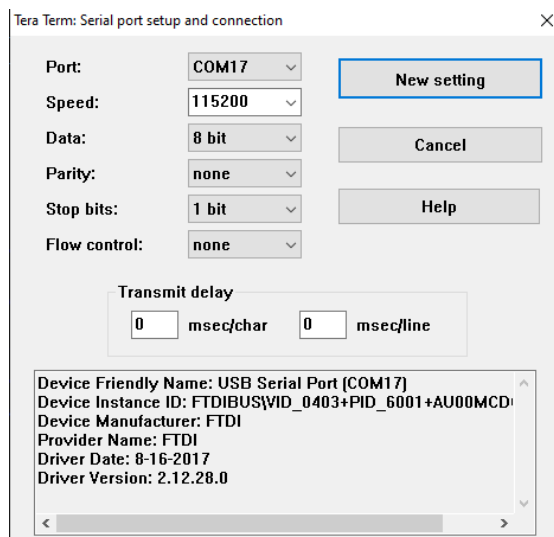

Figure 5.1 COM port configuration
5. Connect the UART0 port(J2) of board to PC through micro USB cable. Then open serial terminal and configure COM port in PC. Select the corresponding COM port which can be found in “Device Manager” of your PC and set 115200 as the baud rate. The configuration example is shown in the figure 5.1.